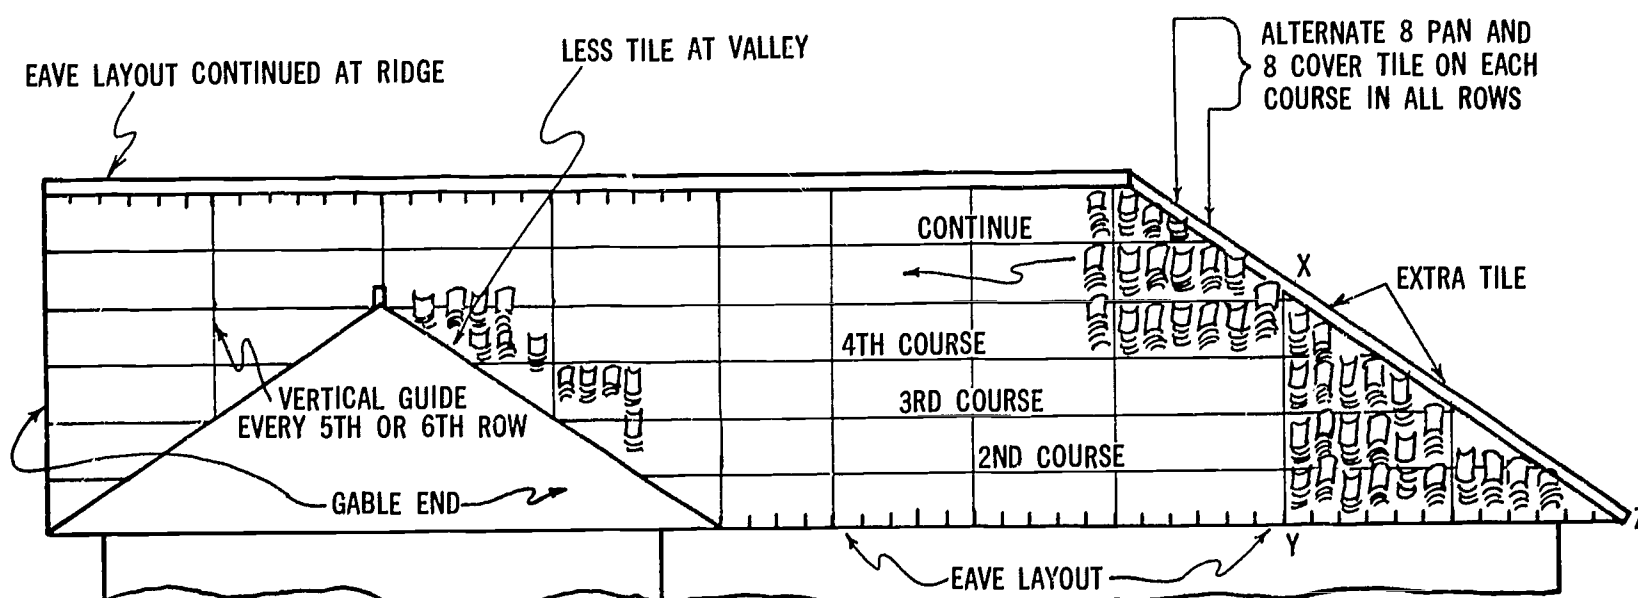

Fig. C-6. Loading tile on a hip roof with a valley
Because a hip roof with a valley is the most difficult to load correctly, this type of roof will be used in the following example of special considerations to observe when loading (Fig. C-6):
- Since inadequate space is available to load tile for the point of the hip, load this triangular portion (X, Y, Z in Fig. C-6) from the eave to the point at which the fourth course will meet the hip line (X).